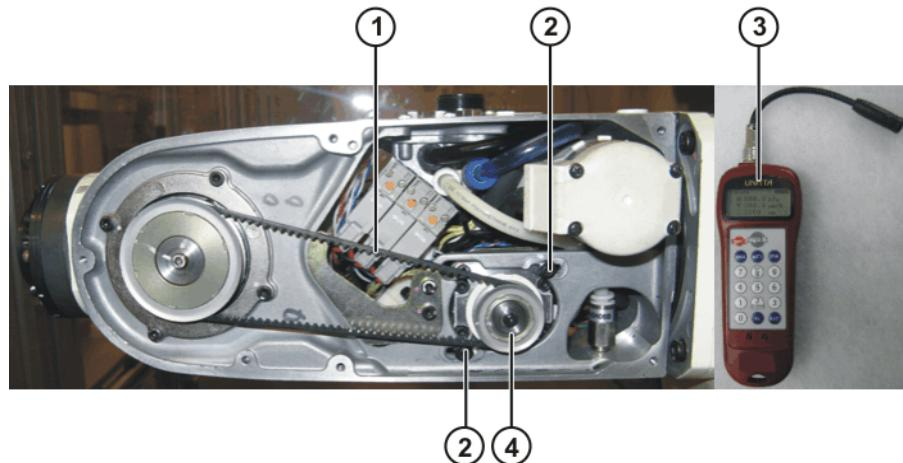

Fig. 10-9: Measuring the toothed belt tension on A6
7. Slightly slacken the 2 screws (**>>>** Fig. 10-9) on motor A6 until it is just possible to shift the motor.